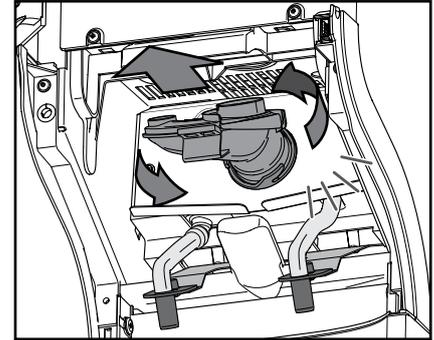

Fig. 38
- d. Rotate the mixing bowl counter-clockwise to release it and remove it with the sealing ring (fig. 38).